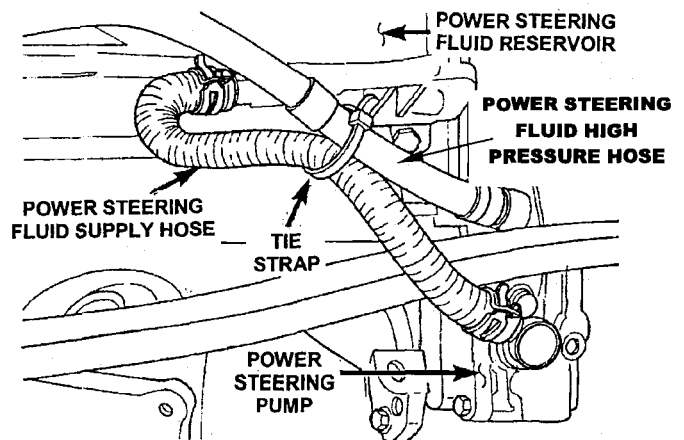

Figure 4
9. Remove and discard the plastic tie strap on the power steering pressure hose near the back of the pump (Figure 4).
17. Install a new plastic tie strap that holds the power steering fluid supply hose to the power steering pressure hose (Figure 4).